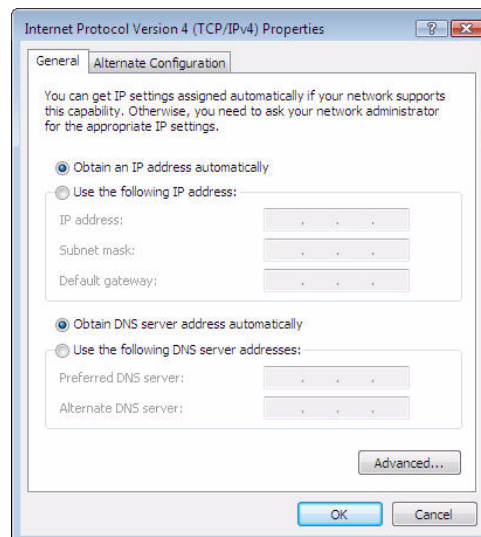

Figure 71: Internet Protocol Properties - Windows Vista
6. Click **Properties**. The Internet Protocol Properties dialog appears as shown in Figure 71.